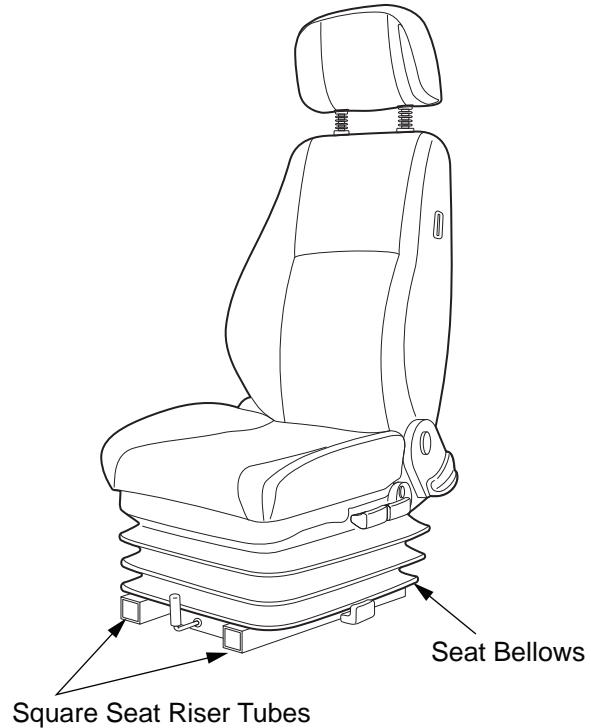

Figure 2-1
1. Pull the seat bellows off the base of the seat at each corner to access the mounting bolts in the square seat riser tubes (see Figure 2-1).